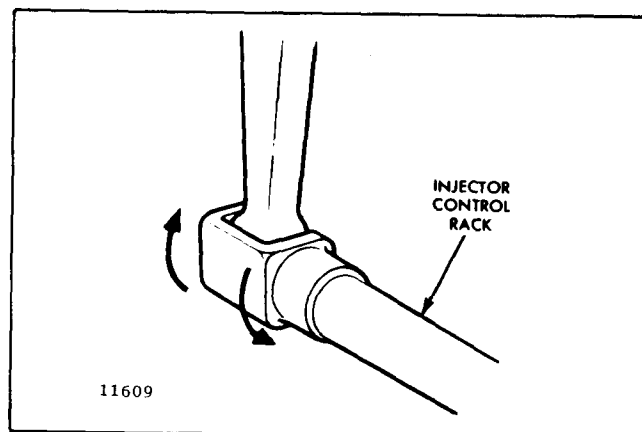
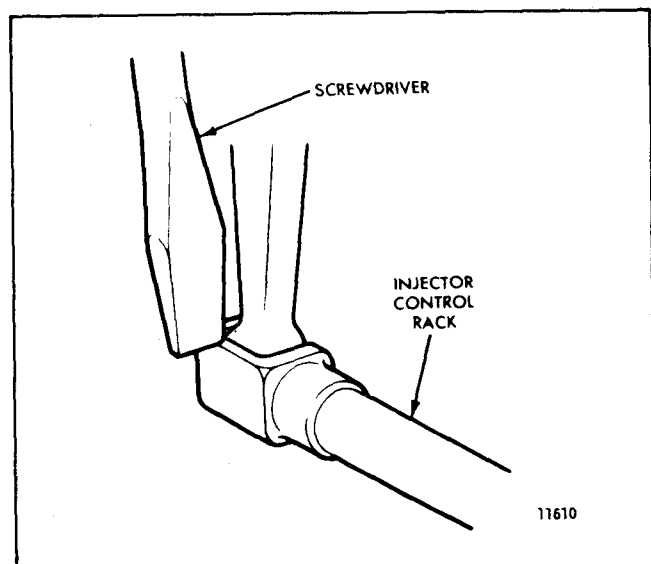

Fig. 4 - Checking Rotating Movement of Injector Control Rack
Fig. 5 - Checking Injector Control Rack Movement
4. To be sure of proper rack adjustment, hold the stop lever in the *run* position and press down on the injector rack with a screwdriver or finger tip and note the "rotating" movement of the injector control rack when the stop lever is in the *run* position (Fig. 4). Hold the stop lever in the *run* position and, using a screwdriver, press downward on the injector control rack. The rack should tilt downward and, when the pressure of the screwdriver is released, the control rack should "spring" back upward (Fig. 5).